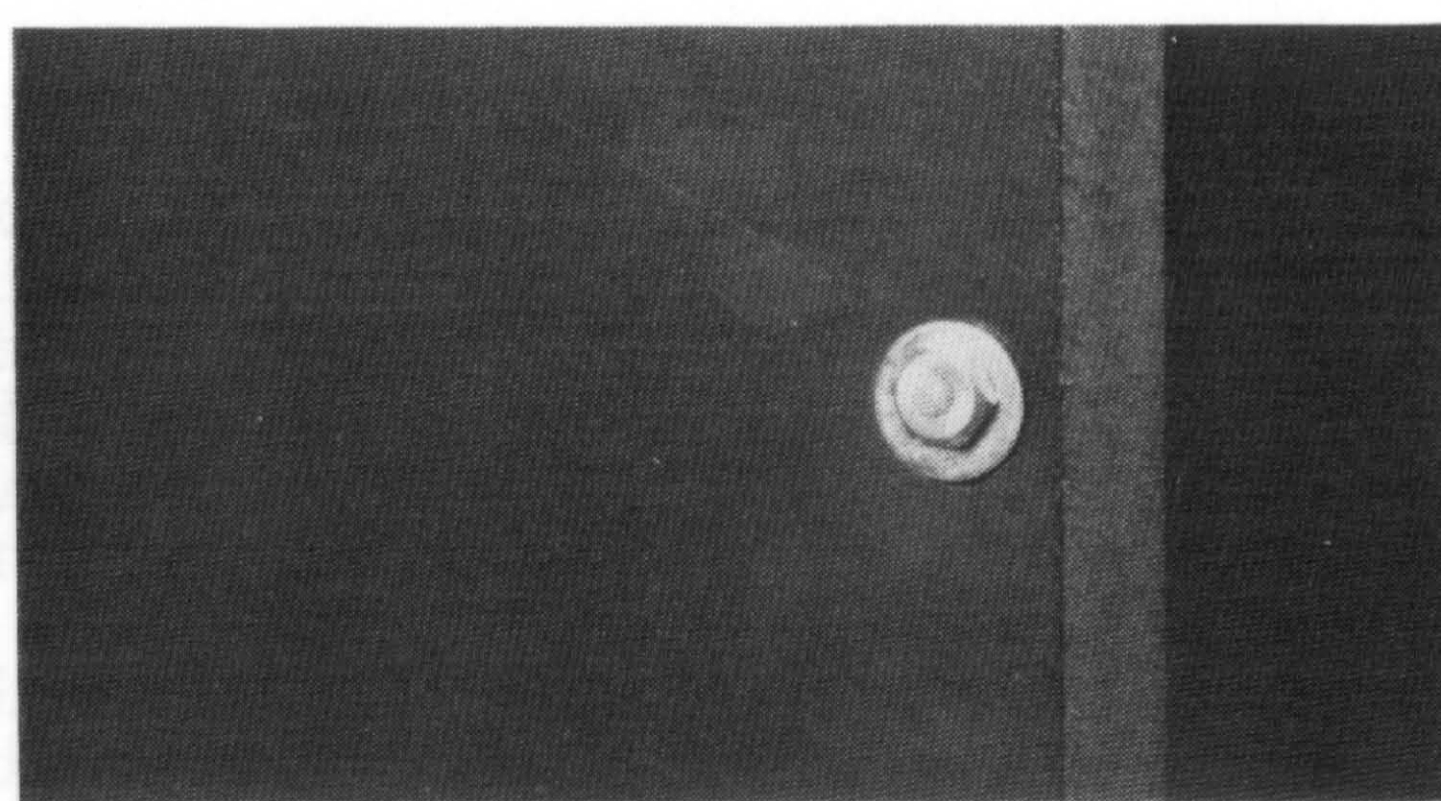

Figure 3A. Hex cap bolt holding top to bottom
- Attach top assembly (two people should lift top) into base assembly as shown in Fig. 3 using four 1/4-20 carriage bolts and nuts and two 1/4" hex cap bolts (Fig. 3A) and washers. See hardware instructions (37-0134) in your accessory kit for detailed assembly information.